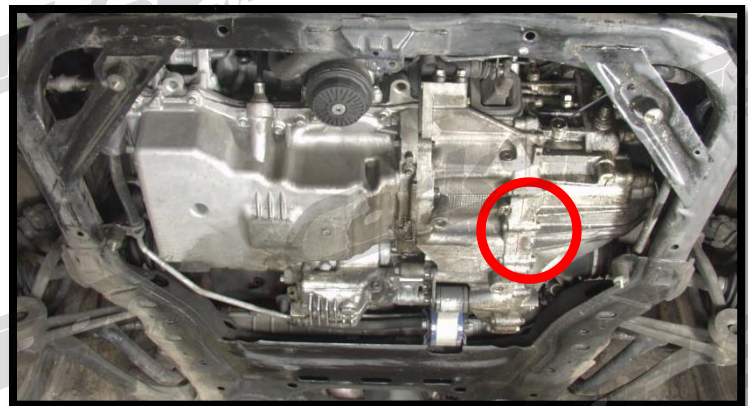

Figure 4c
- c) Place a jack under the transmission (red circle in Figure 4c) and slowly jack until the motor mount barely lifts from the frame rail.